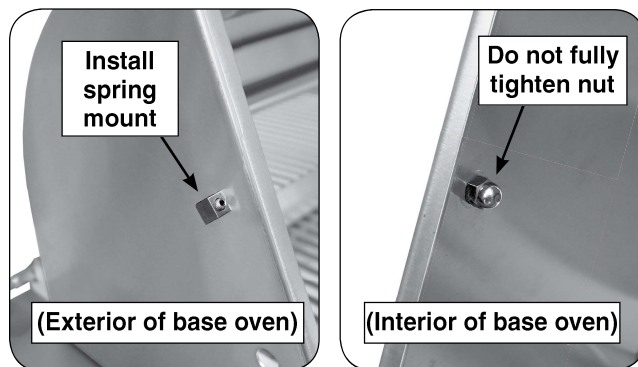

Fig. 3-2 Install spring mount (on base oven)
7. BASE OVEN SIDE WALL: install the new mounting hardware. Do not fully tighten. Leave slightly loosened to allow some play for the next step. See Fig. 3-2.
10. Fully tighten the spring mount from inside the base oven. Reference Fig. 3-2.